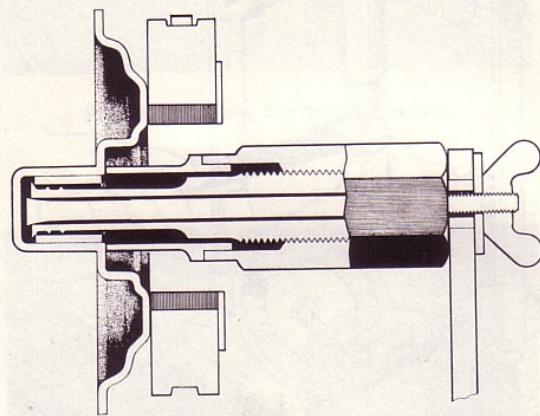

**Fig. 65. Tool for removing bush**
1. Press, knock or pull out the worn bushes with the help of a suitable tool. Special tools for the brush holder end shield are shown in Figs. 65 and 66.